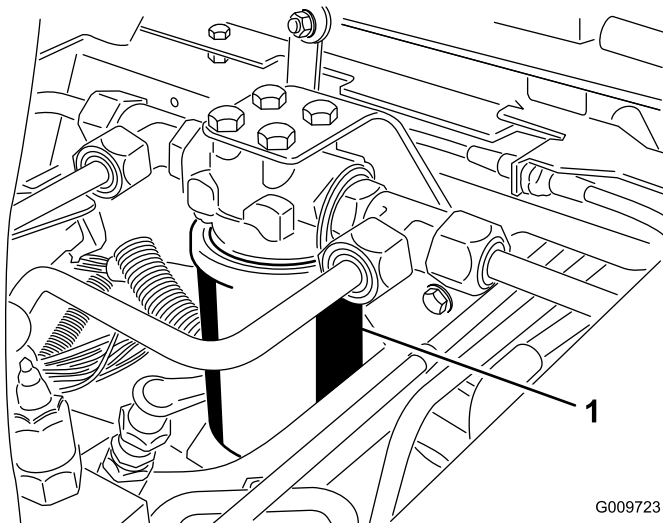
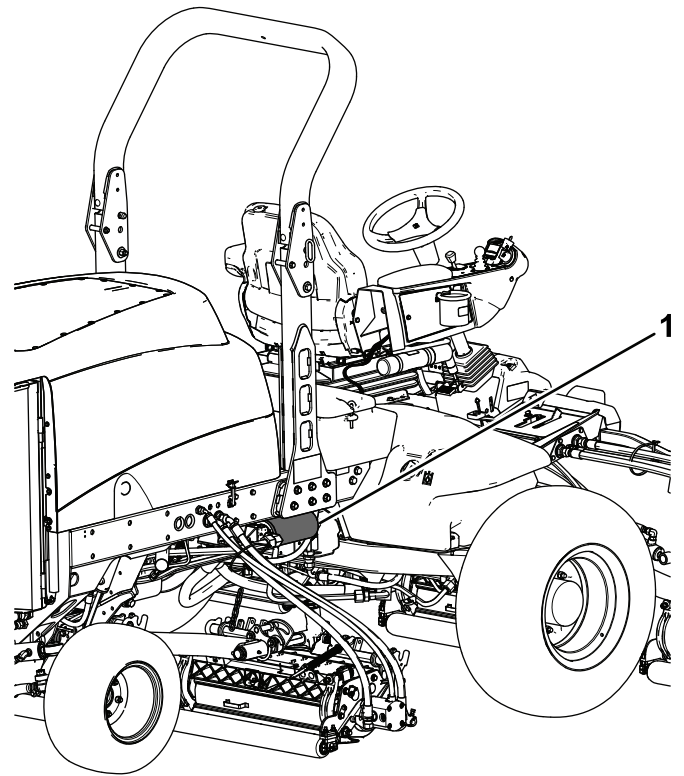

Figure 103
Figure 104
3. Place a drain pan under the filter and remove the filter (Figure 103 and Figure 104).